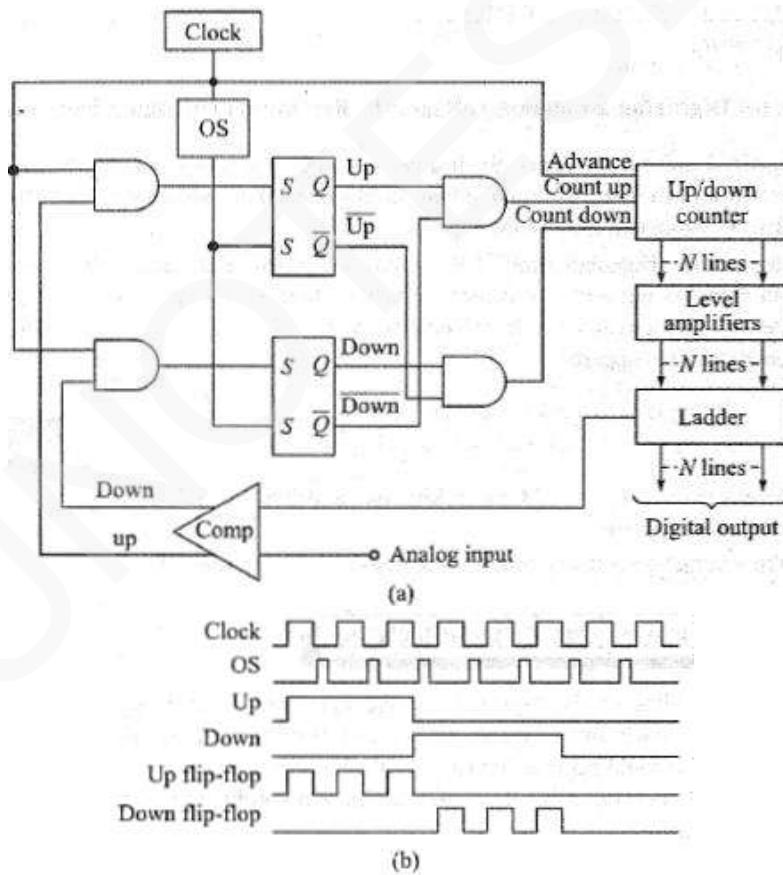

Figure 12.27 Continuous ADC
- binary ladder (Figure. 12.27).